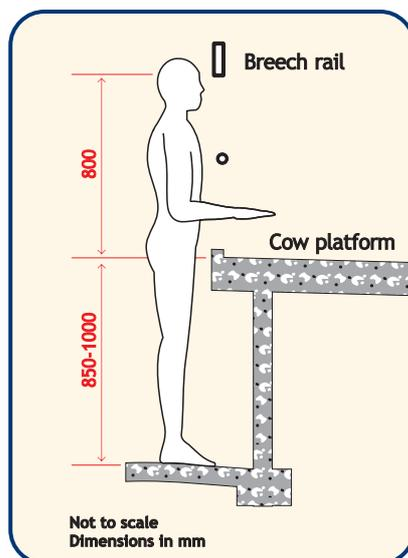

Figure 9.2: Platform height for ergonomic milking.
- The most ergonomic height to work at is between hip and shoulder (see Figure 9.2).